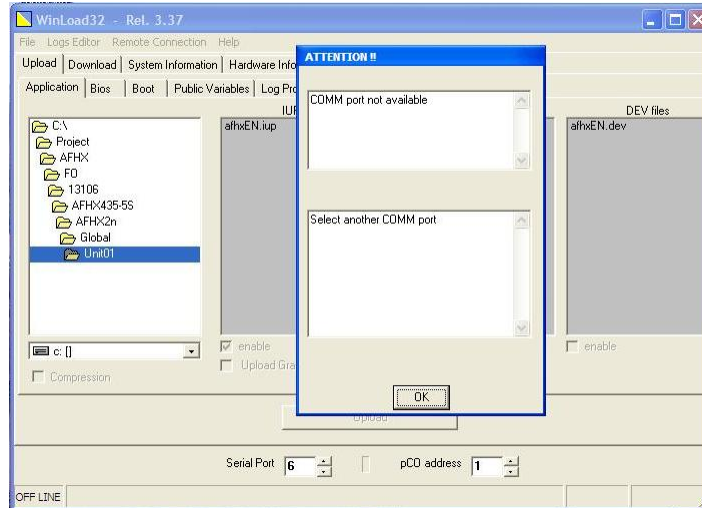

Figure 6.2.1
- i. Open WinLOAD program. A warning message may be pop-up, but this all right if a remote connection is used. (Figure 6.2.1)